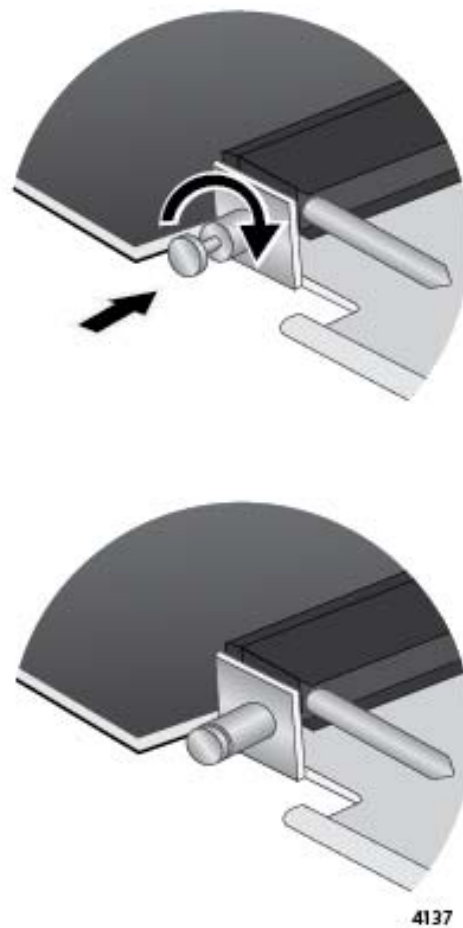

Figure 190. Releasing the Retaining Pin
11. Turn the retaining pin on the side of the card a quarter turn to release it. Refer to Figure 190 on page 314.